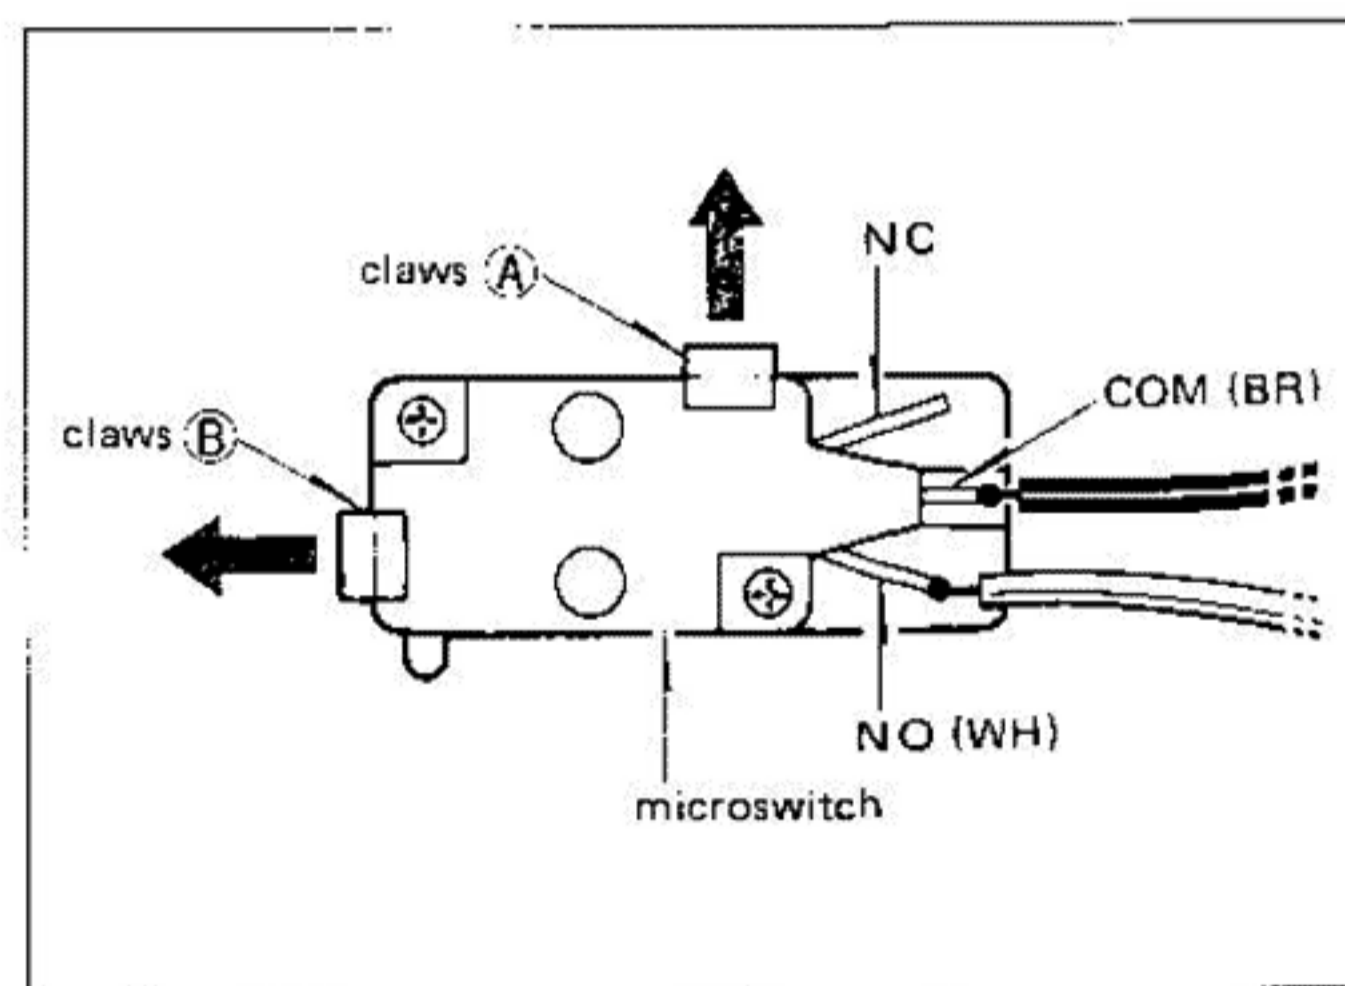

Fig. 10
b. Undo the claws A and B in Fig. 10 fixing the microswitch and replace the microswitch.